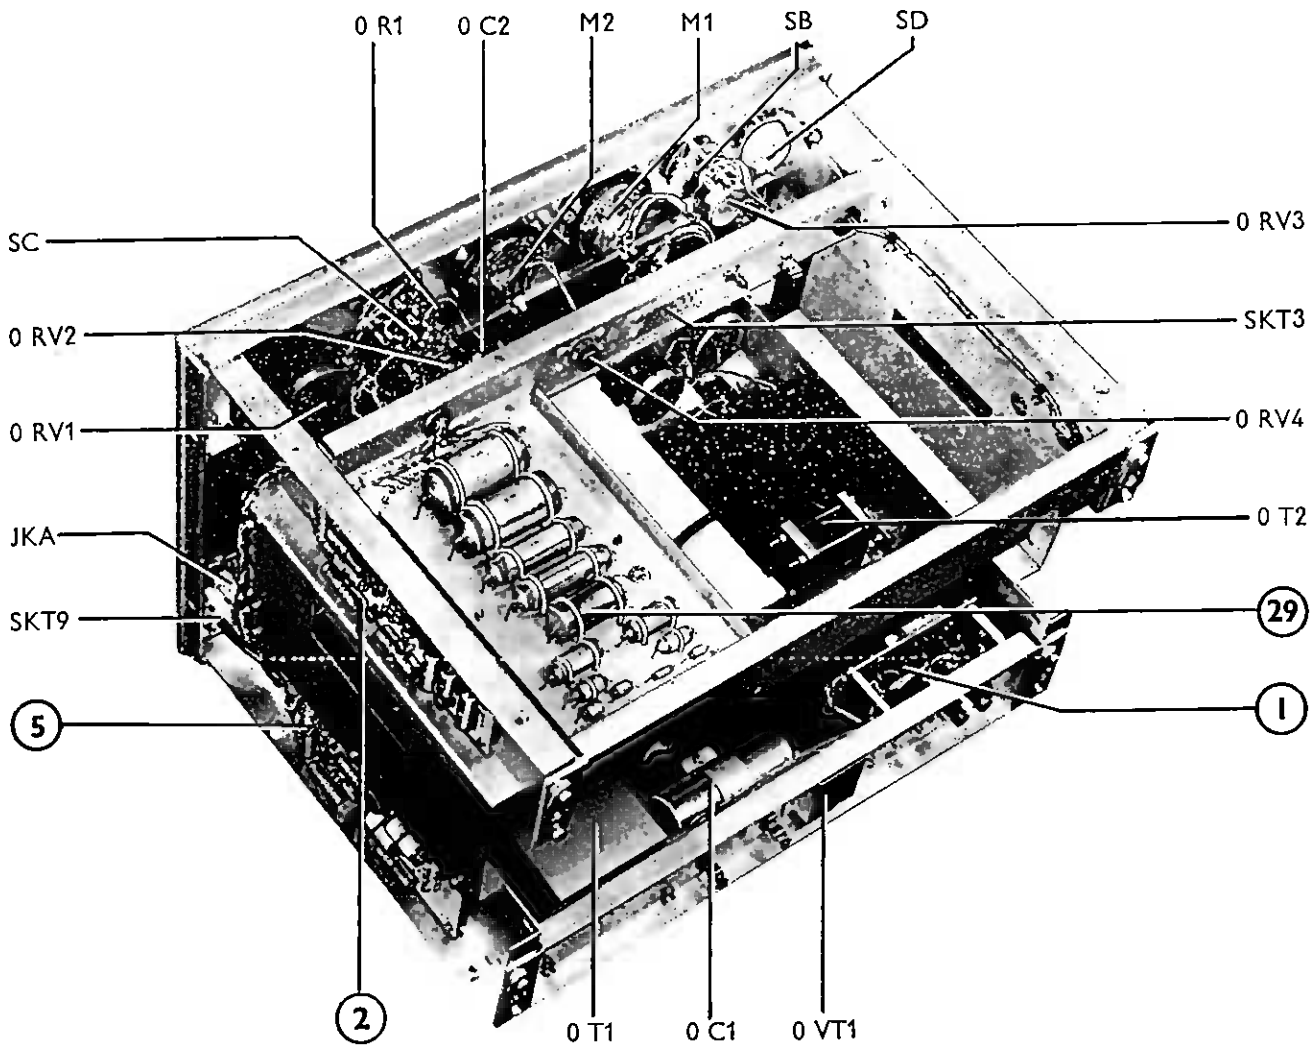
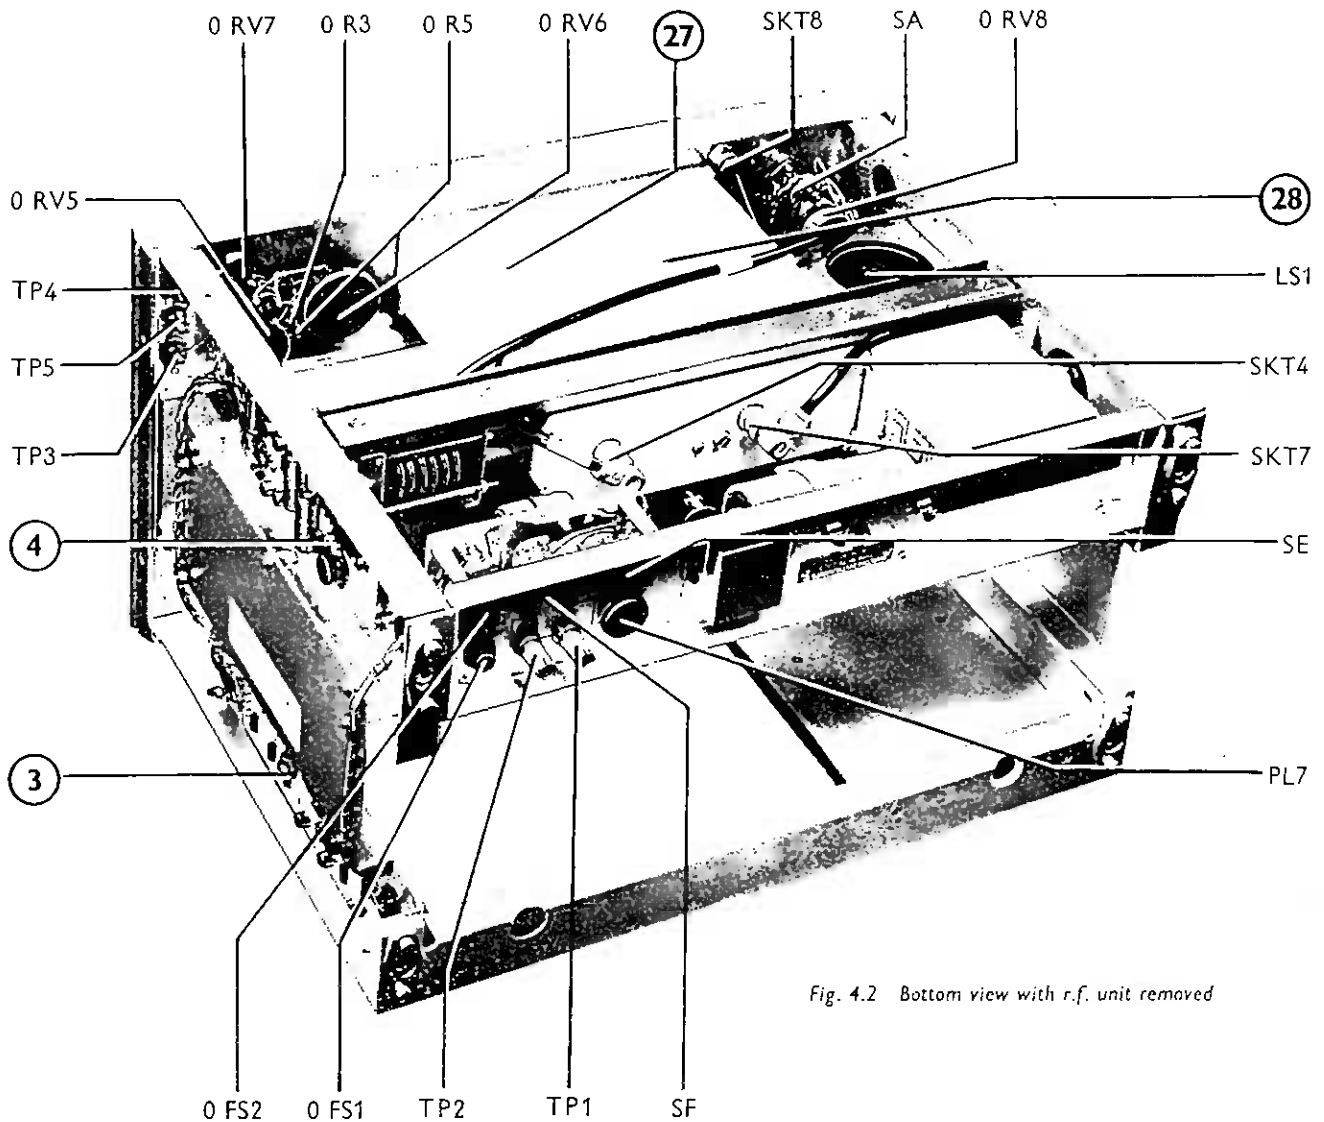

Fig. 4.1 Top view with r.f. unit removed
Fig. 4.2 Bottom view with r.f. unit removed
To remove the outer case of the instrument extract the four coin-slotted 2 BA screws at the rear and slide the instrument forward out of the case. With the case off the following boards are accessible, ①, ②, ③, ④, ⑤, ②9; for the location of these boards and other components see Fig. 4.1 and Fig. 4.2.